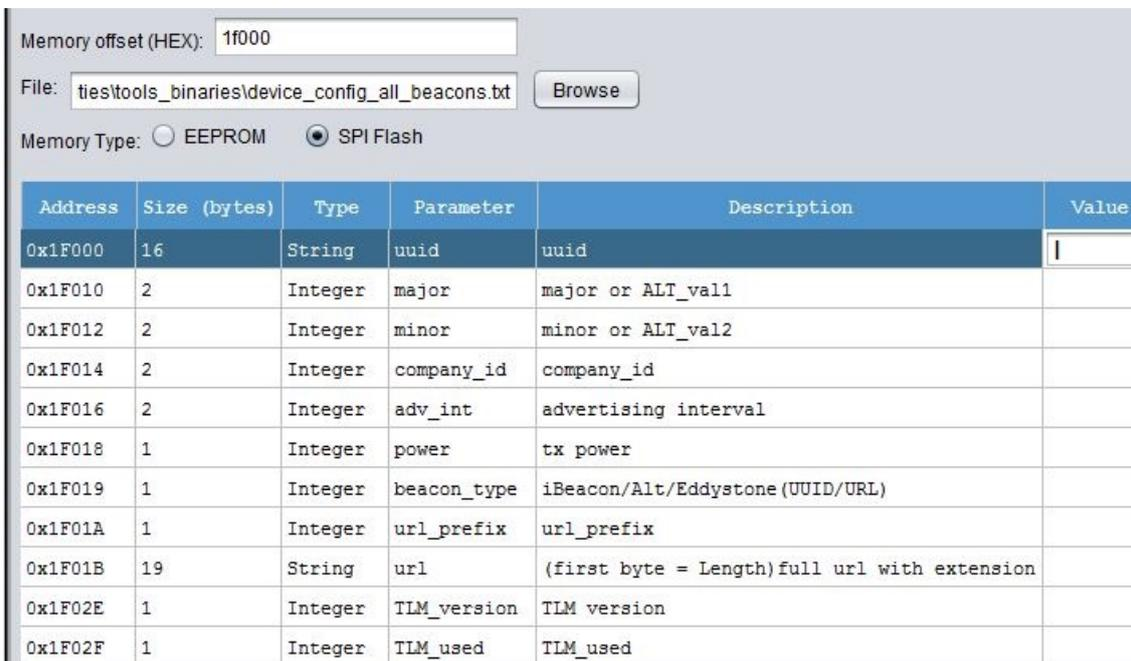
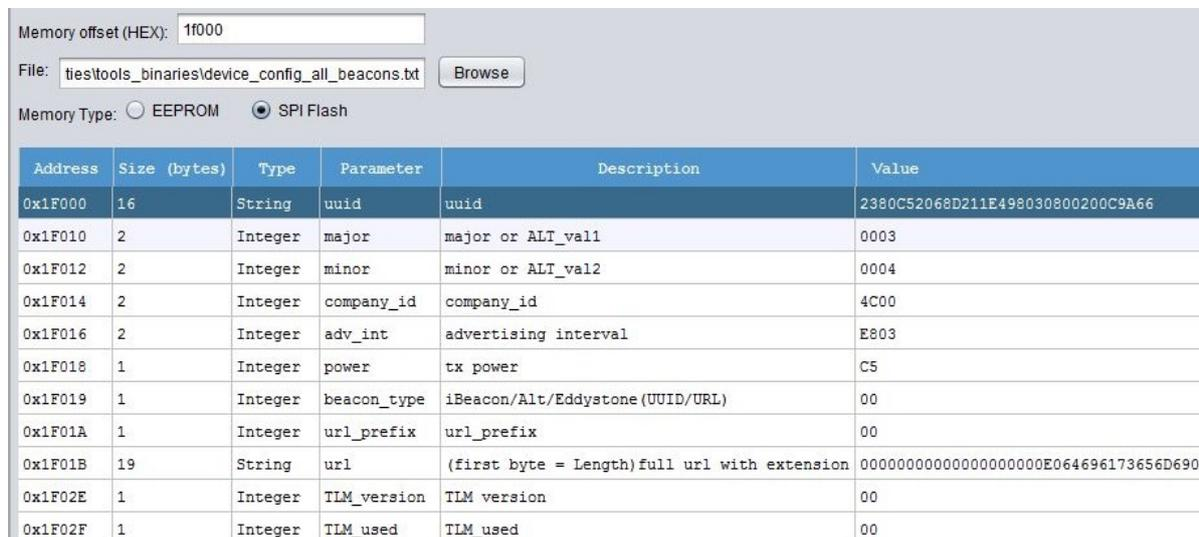

Figure 98: Programming the Various Fields of the Device Configuration Struct
Figure 99: Creating a Custom Dev\_Conf\_Struct .bin File
- d. Enter the desired values at the corresponding blanks (see Figure 98 and Figure 99):